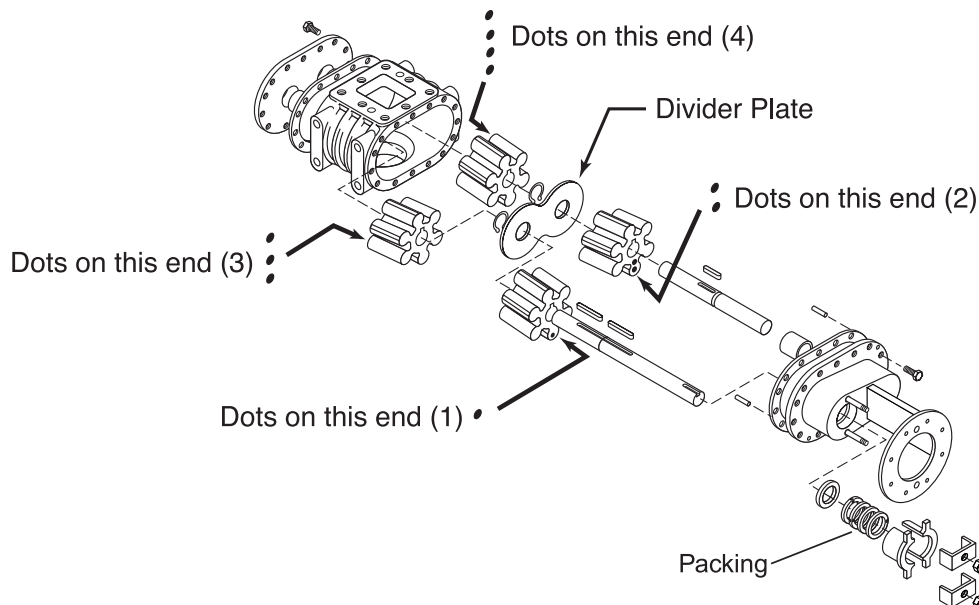

Figure 30. Etnyre Asphalt Pump
1. Remove 20 capscrews from perimeter of pump end plate (see **Figure 30**).
Each impeller gear set uses a series of dots on the gear faces to indicate position of the gears within the pump. Refer to **Figure 30** for proper positioning of the gears. The dots must face away from the divider plate (towards the ends of the pump). Install the impellers in numerical order.